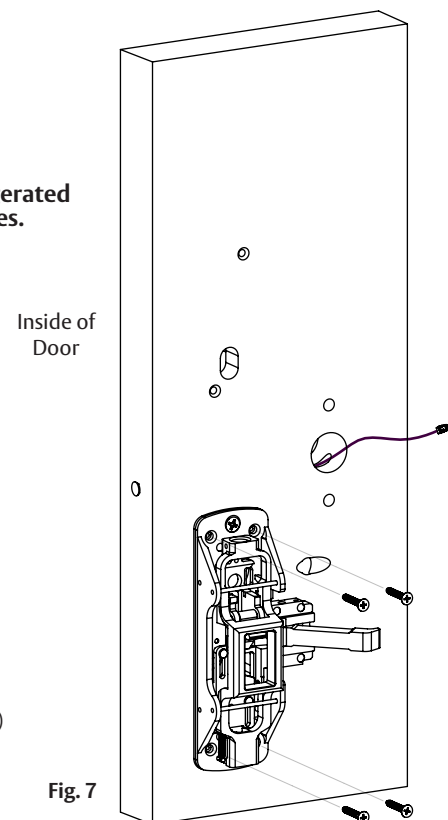

Fig. 7
f. Secure exit chassis. (Fig.7)